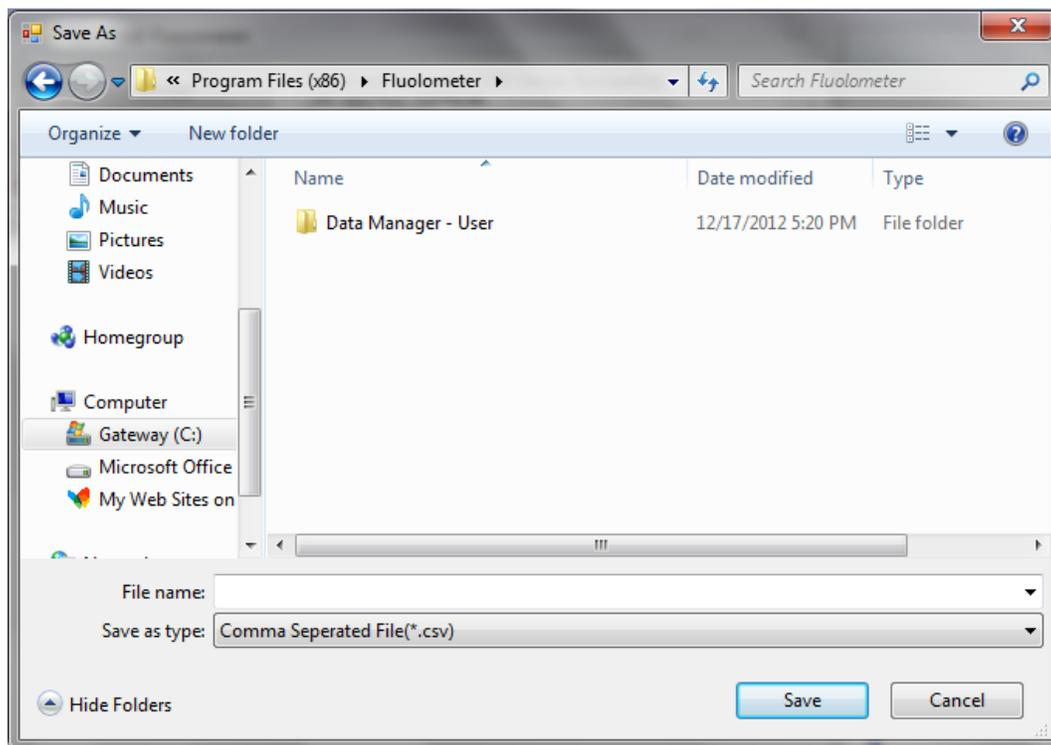

Figure 25. Save As window
- e. Click **“Save Data”** button to bring **“Save As”** window as shown in Figure 25. Type in the file name to save data into \*.csv format file which can be opened in Microsoft Excel spreadsheet.